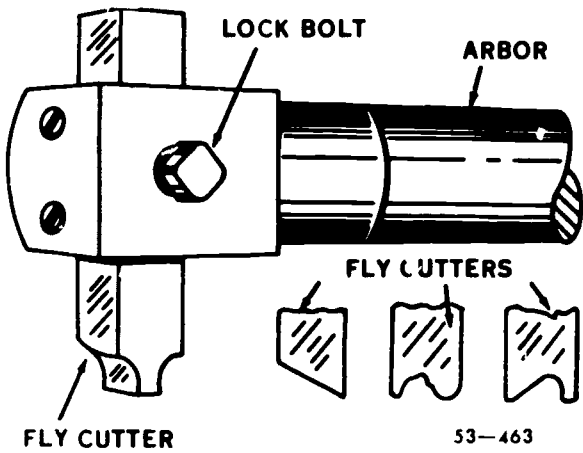

Figure 1-18 Boring-type fly cutter and arbor
**Fly Cutting.** Fly cutting, which is also called single-point milling, is one of the most versatile milling operations. It is done with a single-point cutting tool shaped like a lathe or shaper tool. It is held and rotated by a fly cutter arbor. You can grind this cutter to almost any form that you need, as shown in figure 1-18. Formed cutters are expensive. There will be times when you need a special form cutter for a very limited number of parts. It is more economical to grind the desired form on a lathe-type tool bit than to buy a pre-ground form cutter, which is very expensive and usually suitable only for the job at hand.